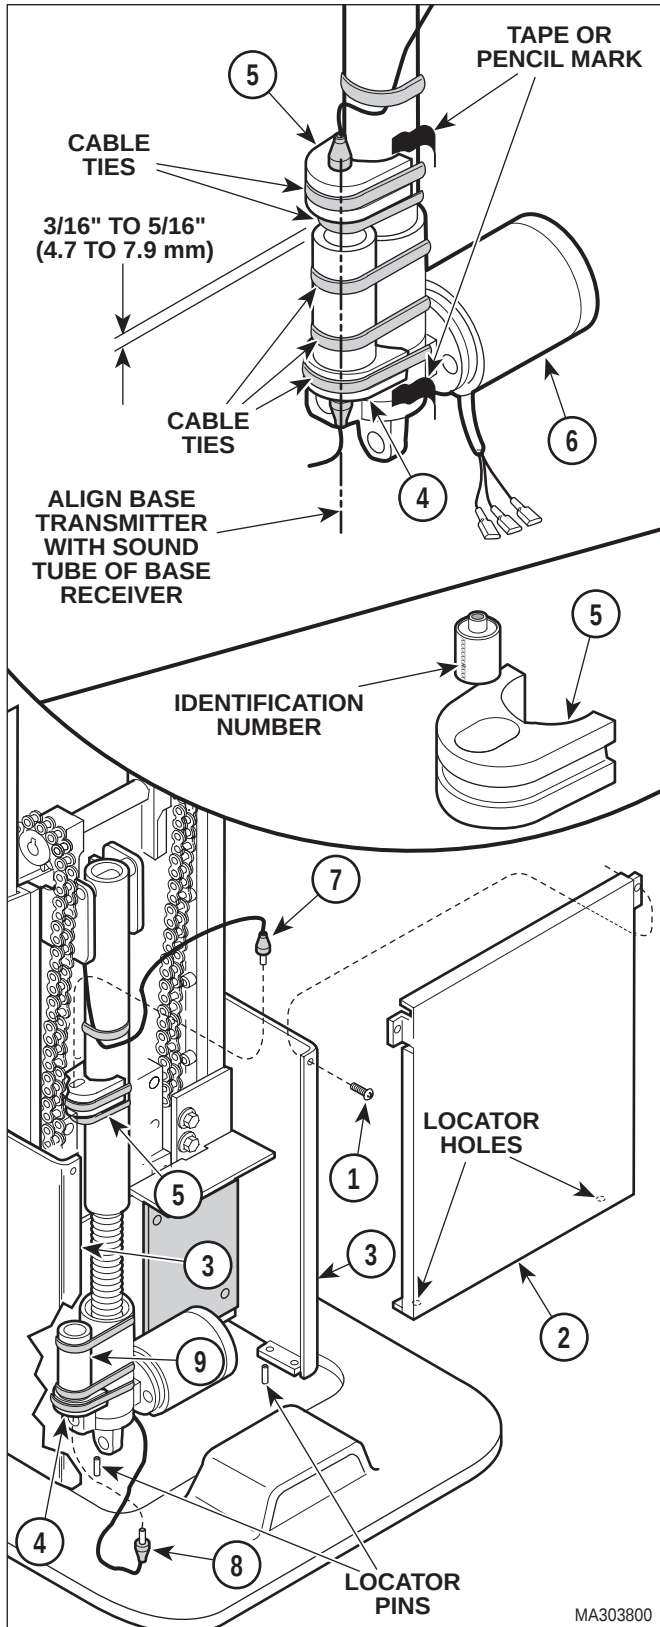

Figure 4-17. Base Actuator Receiver and Transmitter Removal / Installation
- (2) Unplug table power cord from wall outlet.
- (3) Remove shrouds as necessary (Refer to para 4.2 or 4.3).
- (4) Remove two screws (1, Figure 4-17) and rear lower shroud (2) from R.H. and L.H. support channels (3).
- (5) Use pencil or tape to mark positions of base receiver (4) and base transmitter (5) on shaft of base actuator (6).